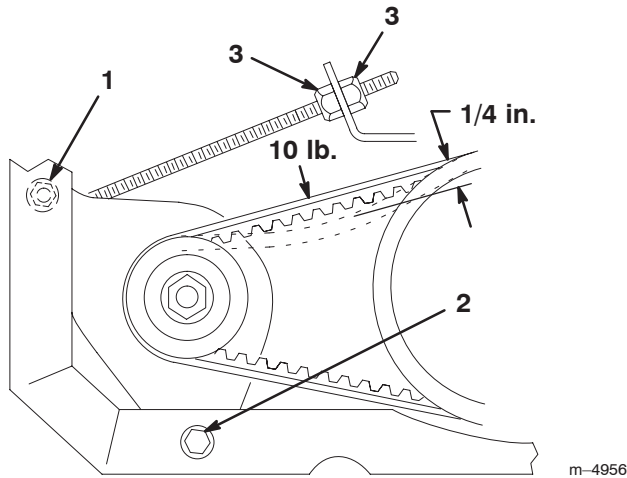

Figure 37
2. Loosen the starter generator nut and pivot bolt (Fig. 37).
3. Adjust the jam nuts on the starter rod (Fig. 37) until the belt flexes 1/4 in. (6 mm) with 10 lb. (44.5 N) of force.
4. Tighten the starter generator nut and pivot bolt (Fig. 37).